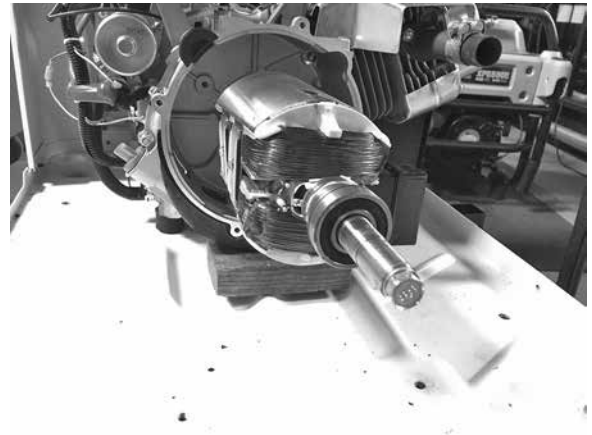

Figure 135.
- a. Position rotor poles up and down. Refer to Figure 135.